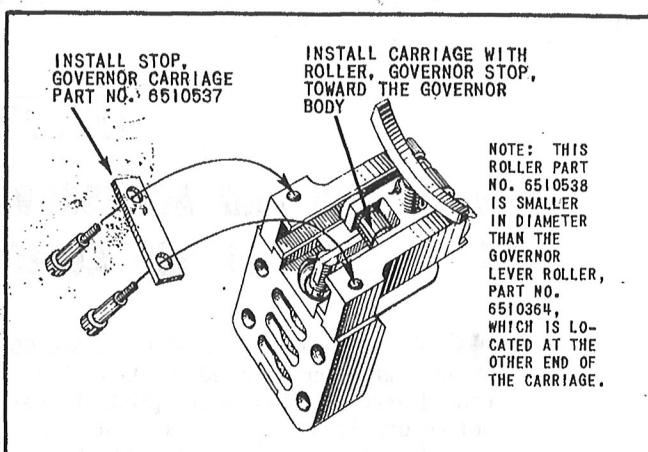

Figure 4
(2) Install the governor carriage to the ways, making certain to position the governor stop roller, part No. 6510538 (the smaller roller), toward the governor body. (See figure 4.)
(3) Place the ways on the governor housing.
(4) Install the new governor carriage stop, part No. 6510537, over the ways and attach with the 10 x 32 screws. Tighten the screws halfway and check for free movement of the carriage in the ways. Adjust the ways until the carriage is free through the complete range of travel. Complete the tightening of the screws and safety with .032-inch safety wire. (See figure 4.)